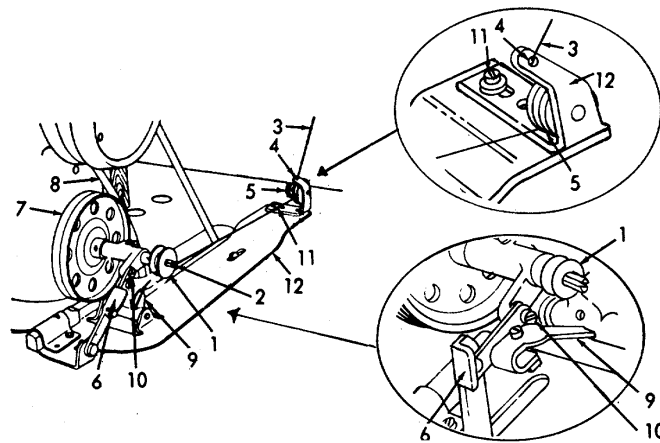

Figure 2-26. Bobbin Winding.
e. *Winding the Bobbin (Refer to Figures 2-26 and 2-27).*
- (1) Refer to Figure 2-26. Place an empty bobbin (1) on the bobbin winder spindle (2) and push it on as far as it will go.
- (2) Pass the thread (3) from the unwinder bobbin thread cone down through the hole in the tension bracket (4) and down between the bobbin winder tension disks (5).
- (3) Pull the thread from the lower side of the tension disks (5) to the bobbin (1).
- (4) Pass the thread around the bottom side of the bobbin and wind it around the bobbin a few times.
- (6) Press the ON button to start the motor and depress the foot treadle to wind the bobbin until the bobbin is fully wound. If properly adjusted by the stop latch adjusting screw (10), the automatic stop latch (9) will operate and throw the bobbin winder pulley (7) away from the machine belt when thread is 1/16 inch (1.6 mm) below the spool lip.
- (7) Regulate the amount of thread wound on the bobbin (1/16 inch (1.6 mm)) below spool lip by adjusting the bobbin winder stop latch screw (10). To wind more thread on the bobbin, turn the screw to the right. To wind less thread on the bobbin, turn the screw to the left.
- (8) If the thread fails to wind evenly on the bobbin (Refer to Figure 2-27) or piles up on one side of the bobbin, loosen the screw (11, fig. 2-26) which holds the tension bracket (4, fig. 2-26) to the base (12, fig. 2-26), and move the tension bracket to the right or the left, as required, then tighten the screws evenly.